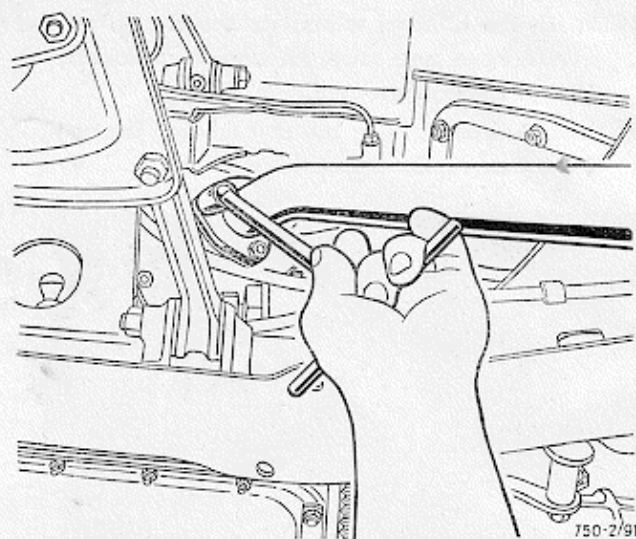

Fig. 91 - Dismantling the exhaust pipe from its manifold
- disconnect the exhaust pipe from the exhaust manifold (fig. 91);